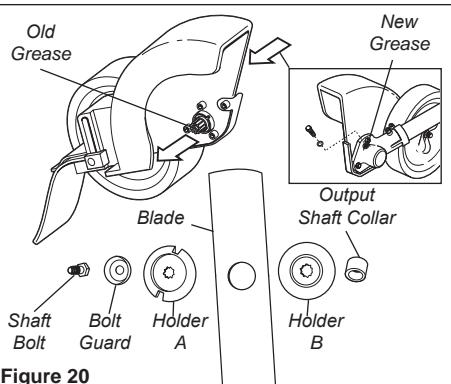

Figure 20
- Remove the cutting attachment, cutting attachment holder and gear shaft collar. Remove the filler plug from the side of the gearcase and press new grease into the gearcase until grease is pushed out. Use only lithium-base grease such as Shindaiwa Gear Case Lubricant or equivalent. See Figure 20.